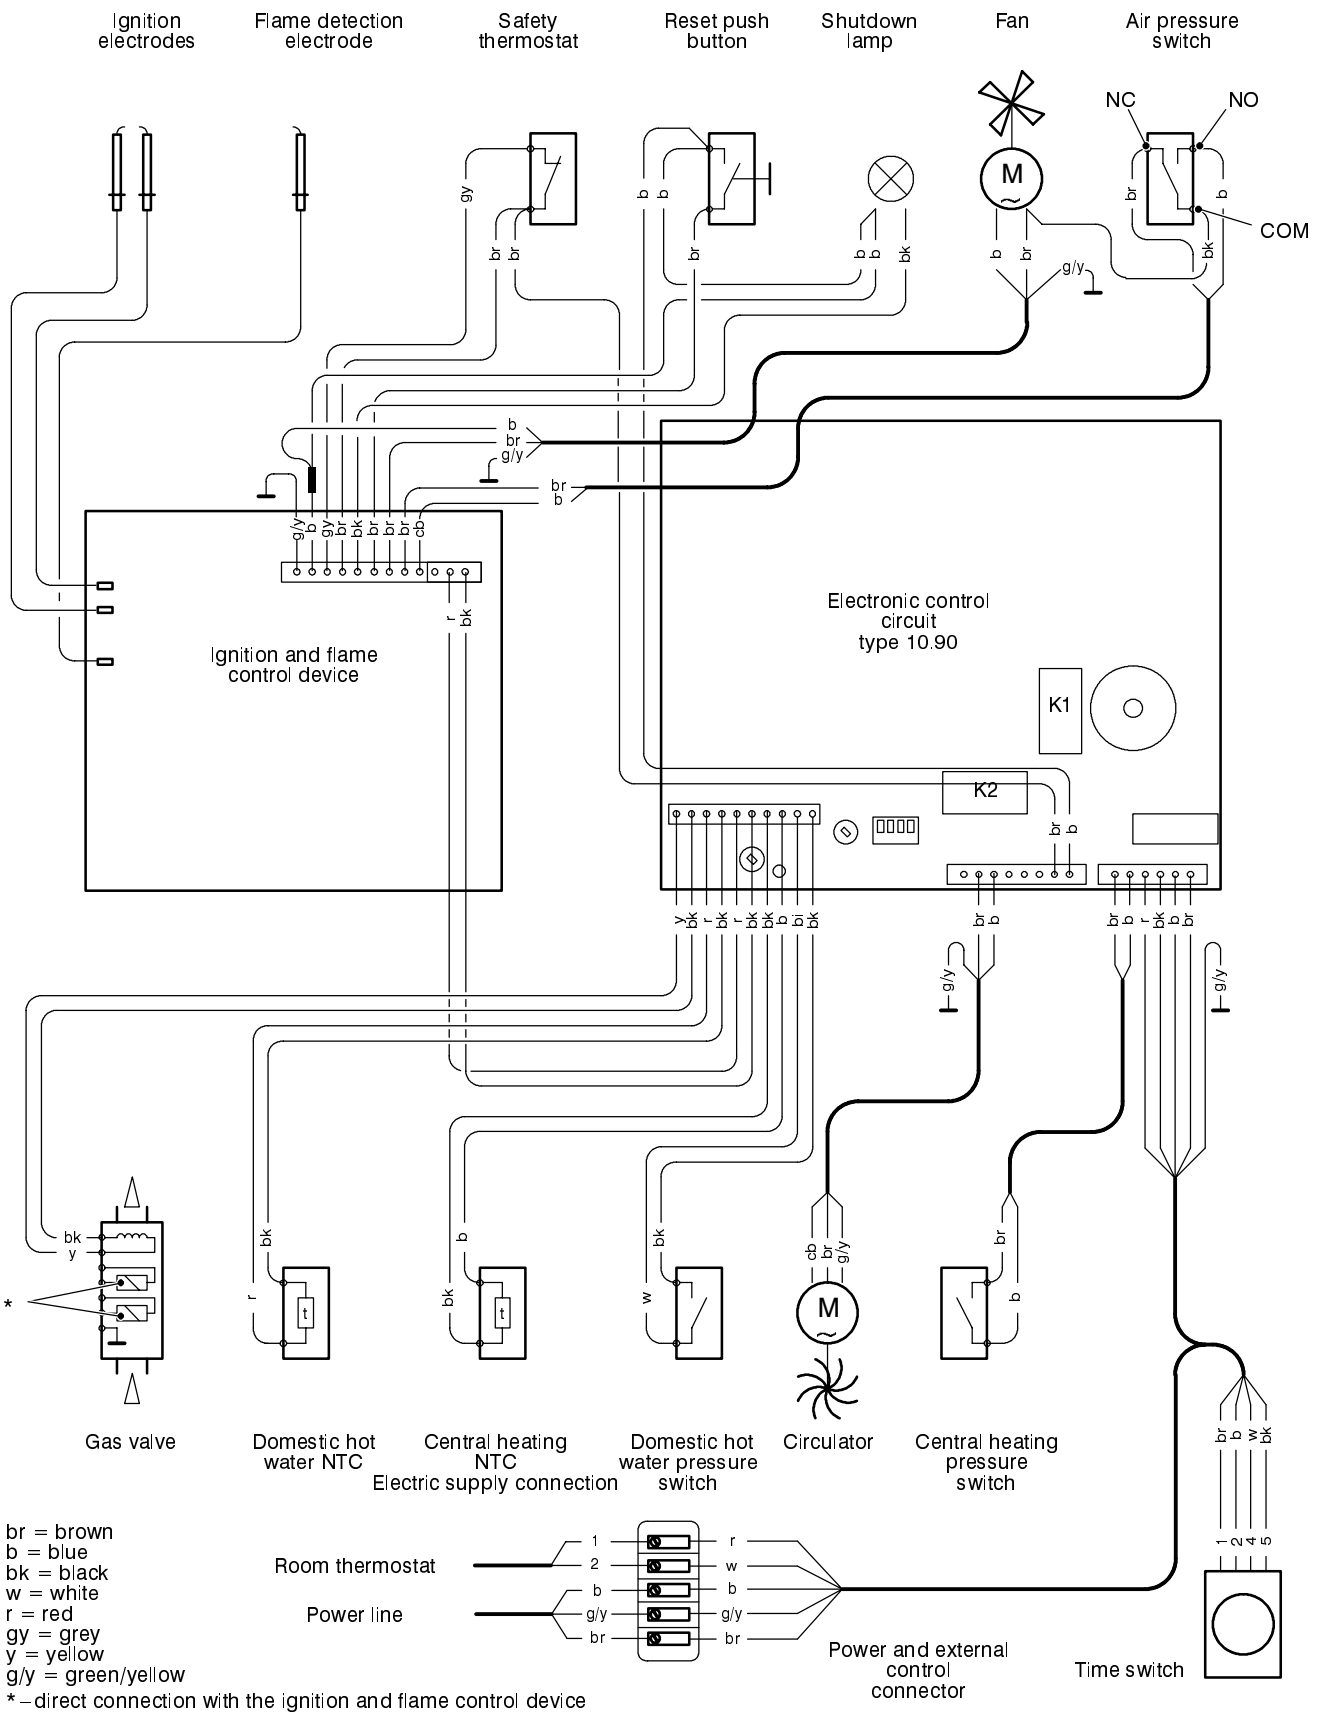

fig. 12
- 2 Close the d.h.w. circuit cut-off valve *J* (fig. 12);